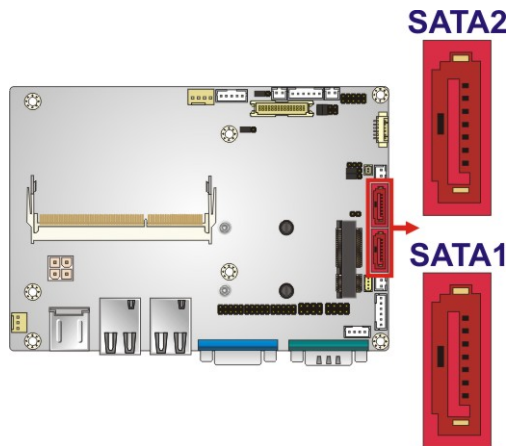

Figure 3-18: SATA Drive Connector Locations
- CN Location:** See Figure 3-18